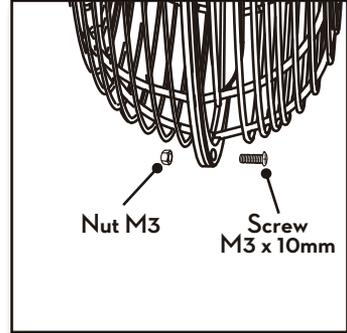

Figure 16
- Mount the front grill to the rear grill, tighten the grills using the grill locking screw and nut at the bottom of the grill. Figure 16.
2. Disassemble the grills by carefully removing the screw and nut at the bottom of the grill. See Figure 16.